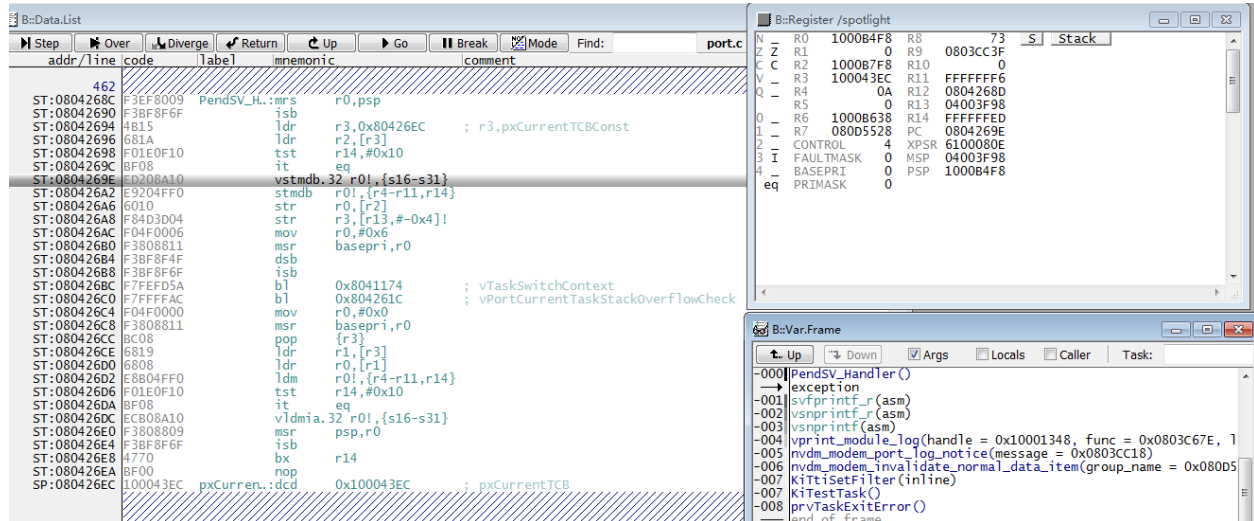

Figure 11. Call stack in Trace32 simulator
Step 3, open t32marm.exe: File-->RunBatchFile... choose YYYY_MM_DD_MM_SS/load_dump.cmm. Then it will show the latest call stack as shown in Figure 11: